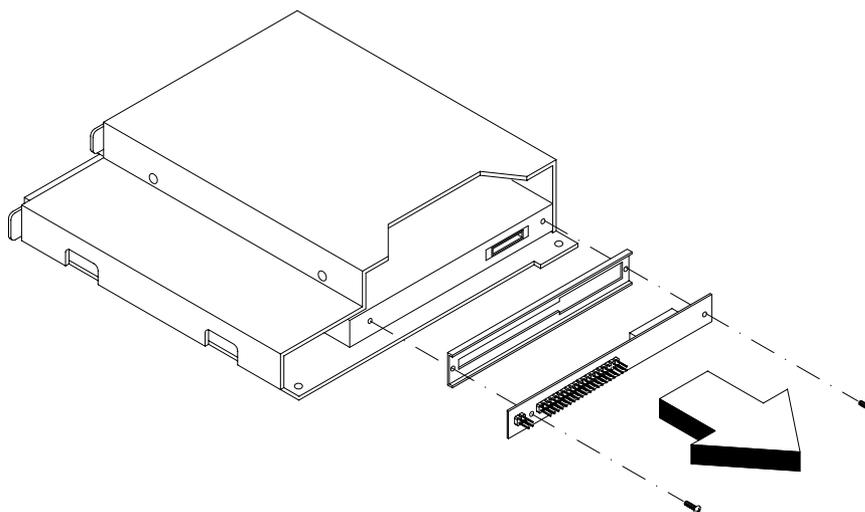

Figure 2-32 Removing the CD-ROM Drive Converter Board
2. Remove two screws to detach the IDE converter board and the plastic plate as shown in Figure 2-32.